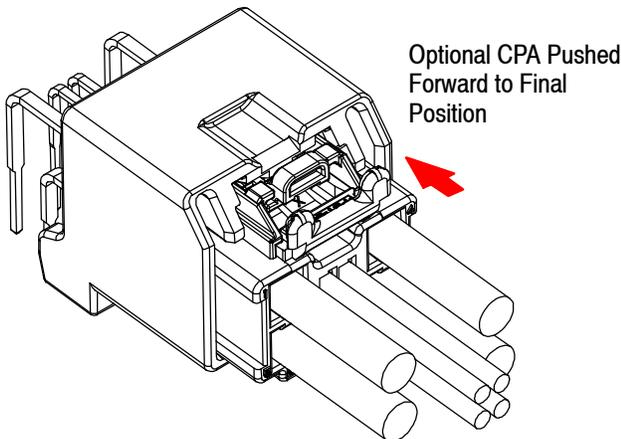

Figure 8
3. To lock CPA after connector mate, push CPA forward until an audible “click” is heard. See Figure 8.